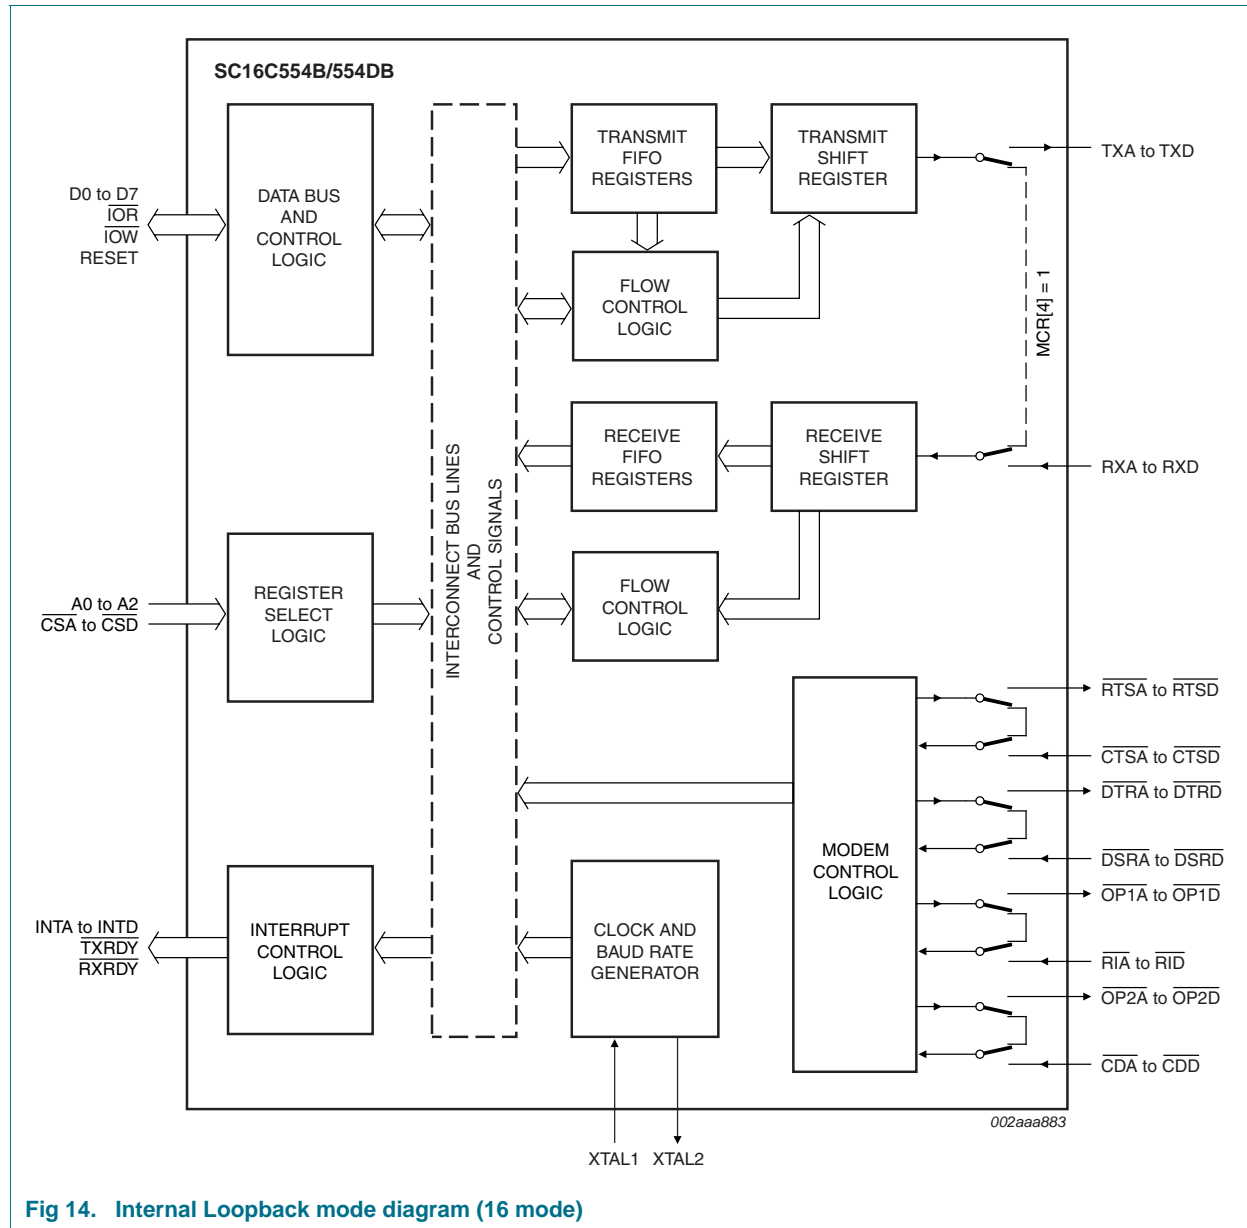

Fig 14. Internal Loopback mode diagram (16 mode)
The internal loopback capability allows on-board diagnostics. In the Loopback mode, the normal modem interface pins are disconnected and reconfigured for loopback internally. MCR[3:0] register bits are used for controlling loopback diagnostic testing. In the Loopback mode,  $\overline{OP2}$  and  $\overline{OP1}$  in the MCR register (bits 3:2) control the modem  $\overline{RI}$  and  $\overline{CD}$  inputs, respectively. MCR signals  $\overline{RTS}$  and  $\overline{DTR}$  (bits 1:0) are used to control the modem  $\overline{CTS}$  and  $\overline{DSR}$  inputs, respectively. The transmitter output (TX) and the receiver input (RX) are disconnected from their associated interface pins, and instead are connected together internally (see Figure 14). The  $\overline{CTS}$ ,  $\overline{DSR}$ ,  $\overline{CD}$ , and  $\overline{RI}$  are disconnected from their normal modem control input pins, and instead are connected internally to  $\overline{RTS}$ ,  $\overline{DTR}$ ,  $\overline{OP2}$  and  $\overline{OP1}$ . Loopback test data is entered into the Transmit Holding Register via the user data bus interface, D0 to D7. The transmit UART serializes the data and passes the serial data to the receive UART via the internal loopback connection. The receive UART converts the serial data back into parallel data that is then made available at the user data interface D0 to D7. The user optionally compares the received data to the initial transmitted data for verifying error-free operation of the UART TX/RX circuits.